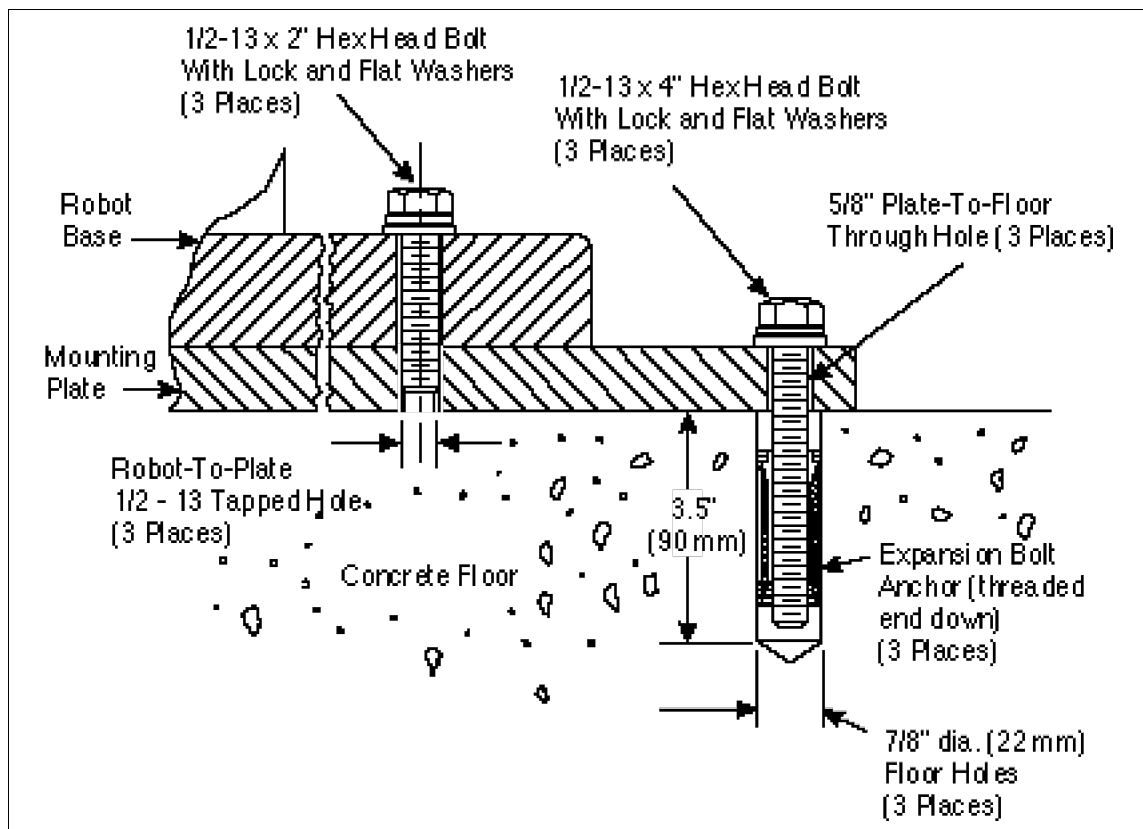

Figure 3-5. Mounting Plate-to-Floor Installation Detail
The following sequence details the installation of the robot-mounting plate to the floor. (See Figure 3.5)
6. Insert an expansion bolt anchor into each of the three holes in the floor. Ensure that the threaded end of each bolt anchor is toward the bottom of each hole, as shown in Figure 3-5.